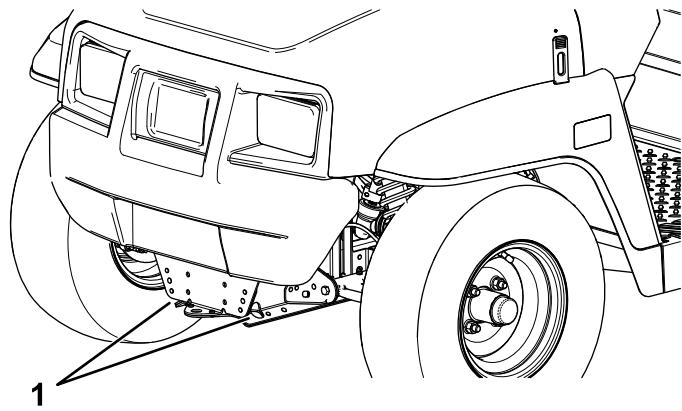
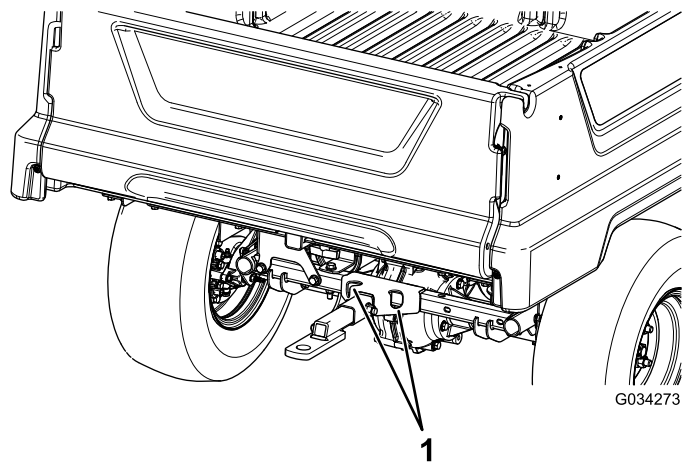

Figure 19
Figure 20
Refer to Figure 19 and Figure 20 for the tie-down locations on the machine.
2. Affix a tow line to the tongue at the front of the machine frame (Figure 19).